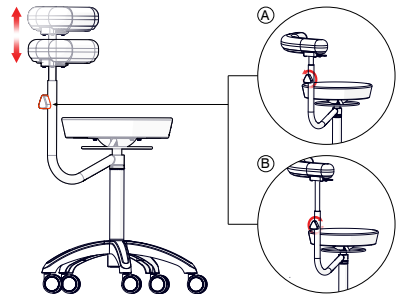

Fig.21
- Unscrew the knob **A** (Fig.21) a little bit.
- Screw the knob until the arm is fixed **B** (Fig.21).